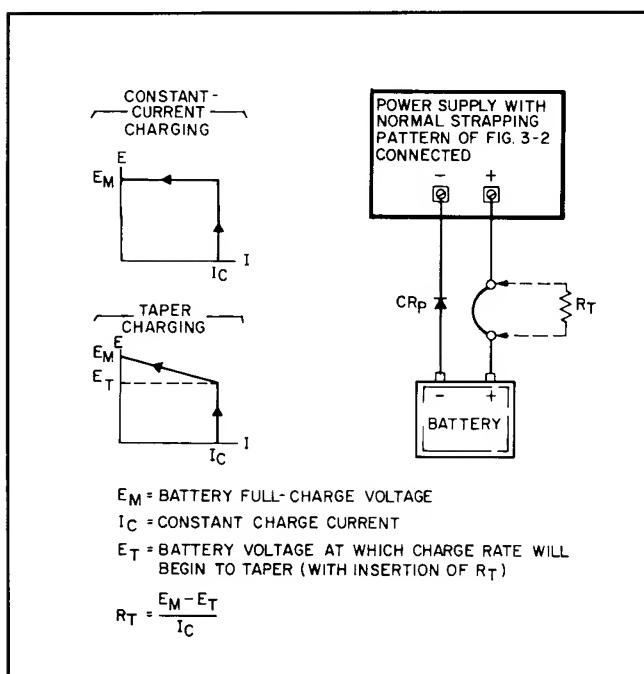

Figure 3-14. Battery Charging
Any time these supplies are used to charge a battery, be sure to install a protective diode CR_P in series with the battery as shown in Figure 3-14 to prevent the battery from discharging into the supply if the supply is turned off. Extensive damage to the supply could result if this diode were omitted.
- b. Connect a short circuit across the output terminals and rotate the VOLTAGE control fully clockwise (CW).
- e. Adjust the VOLTAGE control for an output voltage 0.7 volts greater than the desired full charge voltage. (The added 0.7 volts compensates for the drop across CR_P.) The supply may then be connected to the battery terminals, positive to positive and negative to negative as shown in Figure 3-14 (omit R_T).
3-82 Taper Charge. When charging lead-acid cells, many manufacturers recommend that the charging current be reduced as the charge nears completion. This can be accomplished by inserting a small resistance (R_T) in series with one of the load leads from the supply to the battery. (See Figure 3-14.) This resistor alters the normally rectangular charging plot in such a manner as to provide a taper charge for the last portion of the charge. The proper value for this resistor is the difference between the full charge voltage and the voltage at which the tapering is to start, divided by the initial charging current. Set the initial charging rate and full charge voltage as instructed in paragraph 3-81.